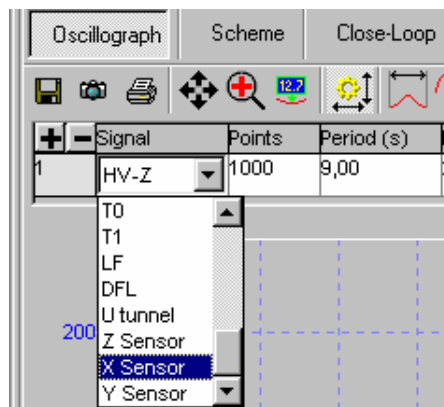

Fig. 2-21
2. Select the “**X Sensor**” signal from the “**Signal**” drop down menu (Fig. 2-21).